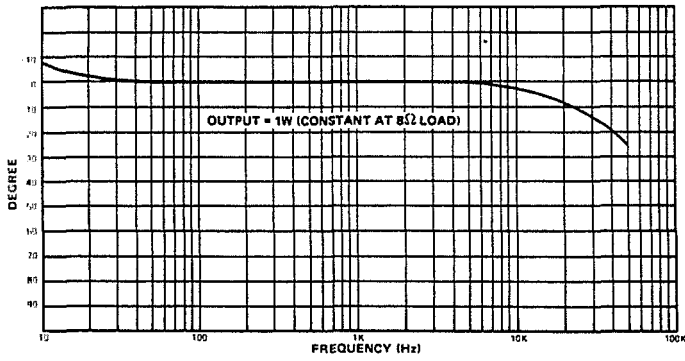

Fig. 11 - Phase Response vs Frequency
**Phase Shift:** (Refer to Figure 11.)
## PHASE RESPONSE (Refer to Figure 11)